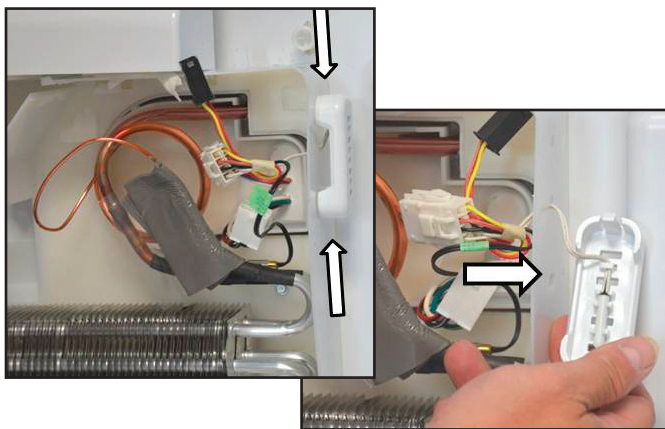

FIGURE 31
8. Grasp the top and bottom of the thermistor housing and depress while you pull out on the housing. The evaporator thermistor is part of the RC wiring harness. See *Figure 31*.